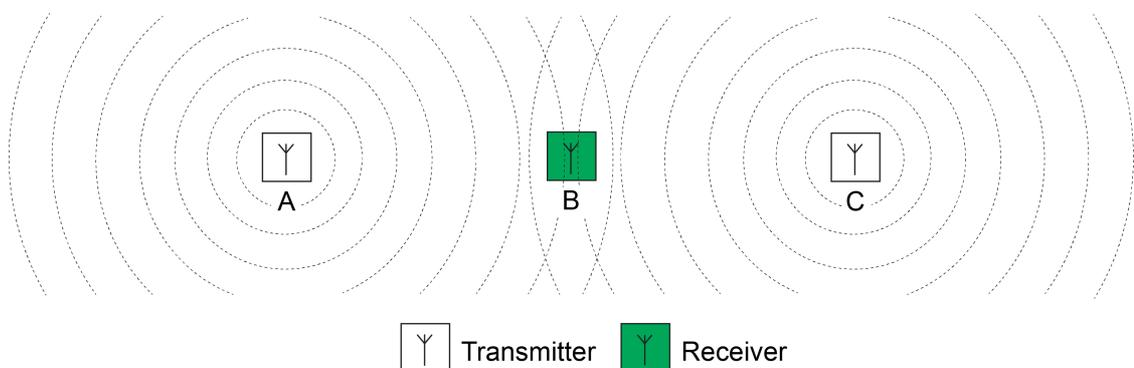

Figure 23: Radio collisions on the receiver due to the transmitter being too far away
The described transmission method for controlling media access generally prevents radio collisions in a KNX RF environment, but cannot exclude them completely. For example, it may occur that, in the case of a transmission between an RF transmitter (A) and an RF receiver (B), there is an additional RF transmitter (C), which is located within the range of the RF receiver, but cannot reach the other RF transmitter due to the spatial distance (figure 23). In such a case, the two RF transmitters are unable to detect when the other transmits radio signals (Hidden Station Problem). In consequence, radio collisions can occur on the receiver located in the range of the two RF transmitters.